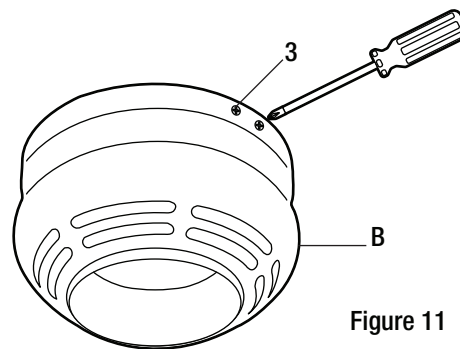

Figure 11
- Fix the motor housing (B) onto the supporting bar (A) by tightening the four screws (3) preassembled to the motor housing (B) (Figure 11).